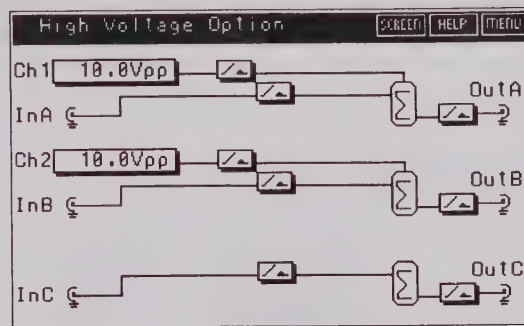

Figure D-2. High Voltage Screen
5. The screen now displays the *High Voltage Option* screen (Figure D-2). An error message is displayed instead if the module is not installed.